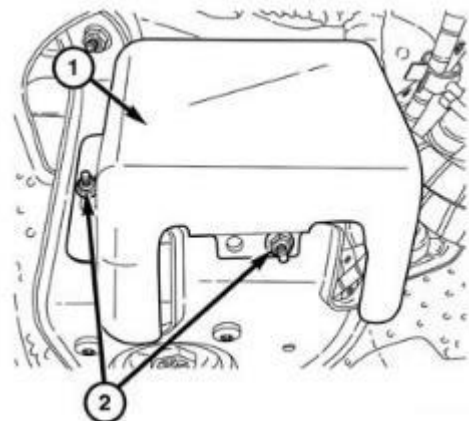

**Figure 20 - Upper EGR Tube Gasket**
46. Install a **NEW** EGR tube gasket (1) (Figure 20).